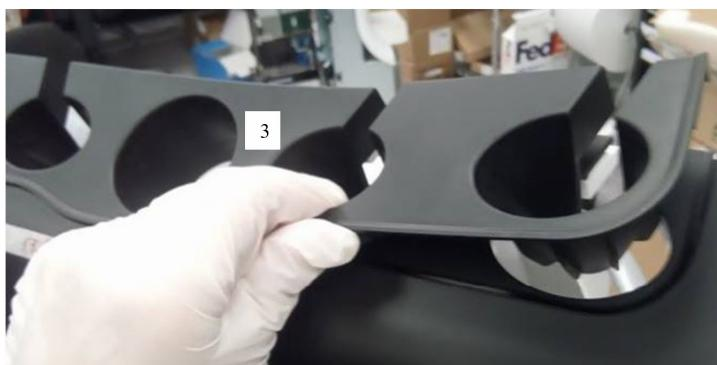

Figure 10-3. Removing the Gel cup holder or the TVTR tray Gel cup holder
1. Hold down the probe holder (Figure 10-3, item 1) while pulling the gel cup (gel holder) or TVR tray upward (Figure 10-3, item 2).
2. Pull the probe holder insert up to remove it (Figure 10-3, item 3).